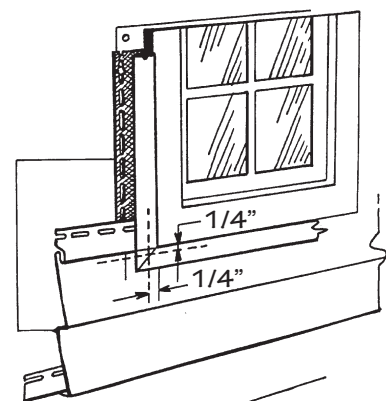

Figure 41.
- Hold the panel under the window and mark the width of the window opening on the panel. Add approximately $\frac{1}{4}$ " (6.4mm) to both sides to allow for expansion and contraction of the siding. These marks represent the vertical cuts (Fig. 41).